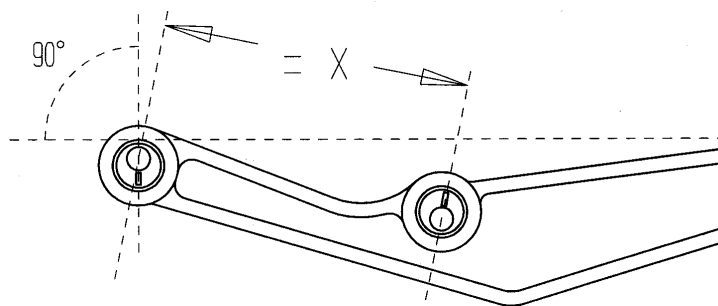

Fig .2
5. Press bush into leading arm. Refer fig .2
Note: The raised indicator mark on the OME caster kit bush must face **UPWARD**. Refer fig .2